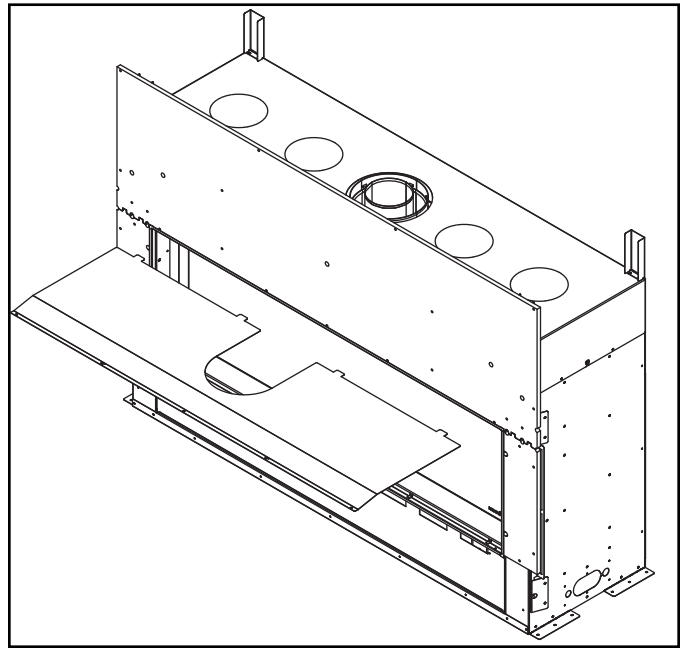
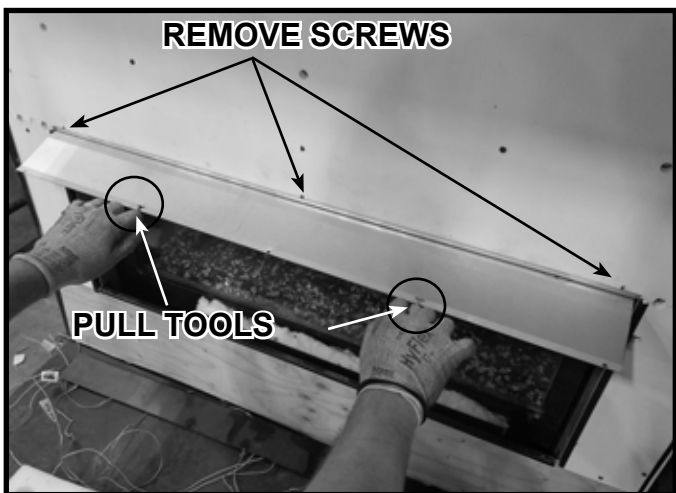

Figure 16 Remove Heat Shield
Figure 15 Use Pull Tools to Remove Heat Shield
4. Remove the screws from the heat shield as shown in Figure 15. Quantity and location of screws will vary between models.
7. Carefully pull the heat shield out of the appliance as shown in Figure 15 and Figure 16. Discard heat shield. Repeat procedure on other side if application is on a see-through appliance.